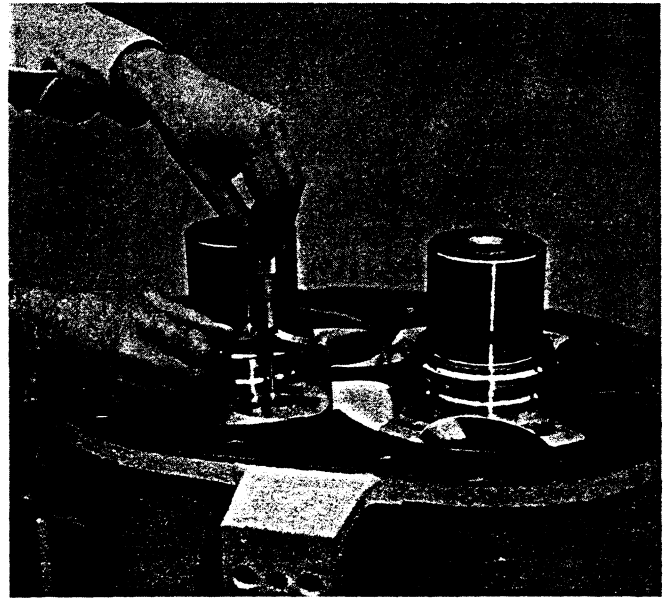

Figure 26
13. Measure the height of the rotor bearing spacer (integral with the rotor) above the face of the rotor lobes. Refer to Figure 26. This is dimension "B". This dimension "B"